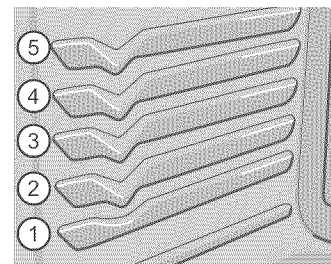

Figure 3: Oven rack positions
- For best results when baking cakes using two oven racks, place racks in positions 2 and 4 (Figure 3).